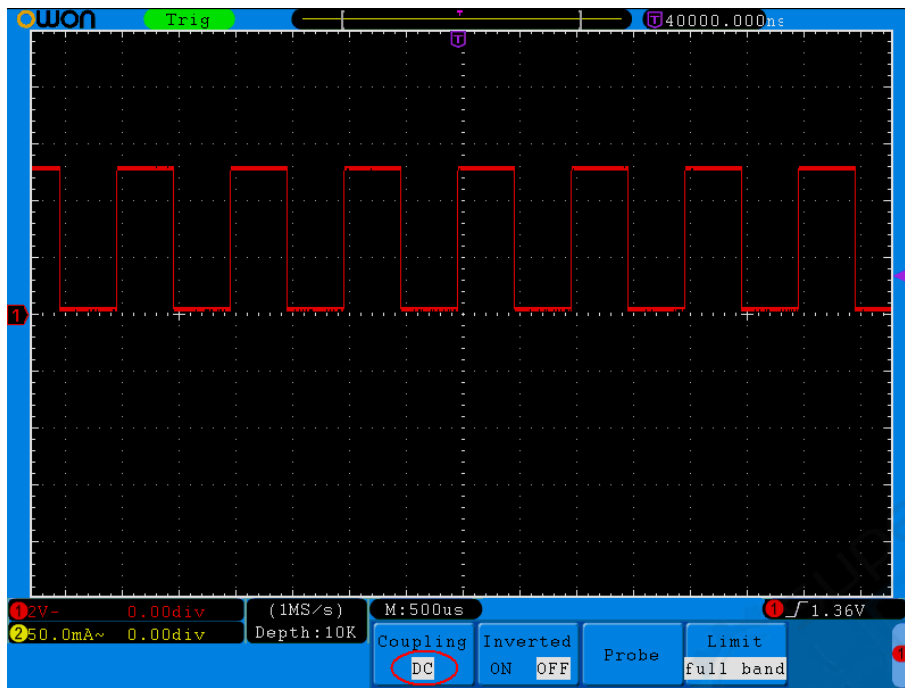

Figure 5-2 DC Coupling Oscillogram
- (1) Press the **CH1 MENU** button to show CH1 SETUP menu.
- (2) Press the **H1** button, the Coupling menu will display at the screen.
- (3) Press the **F1** button to select the Coupling item as "**DC**". Both DC and AC components of the signal are passed. The waveforms are shown as *Figure 5-2*.